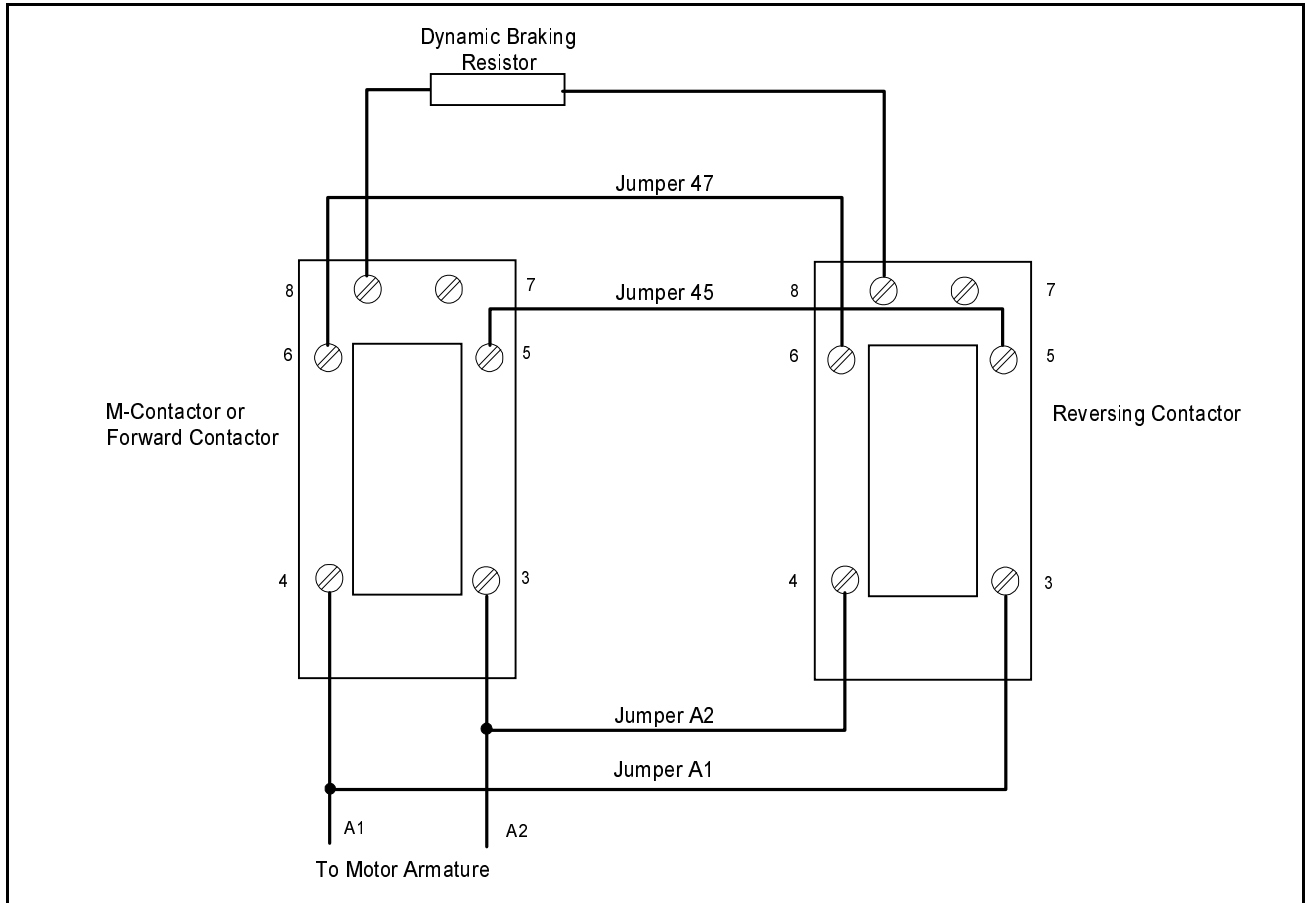

Figure 3 – Dynamic Braking Resistor Connections for Non-Regenerative FlexPak Plus Drives With a Reversing Contactor
Step 6. **For non-regenerative FlexPak Plus DC drives with a Reversing Contactor:** Connect the dynamic braking resistor between the corresponding normally closed (NC) contacts on the forward contactor and the reversing contactor. For example, connect the resistor between terminal 8 on the forward contactor and terminal 8 on the reverse contactor. This places the resistor across the motor's armature (A1 and A2) when both contactors are de-energized. Refer to figures 3 and 4.